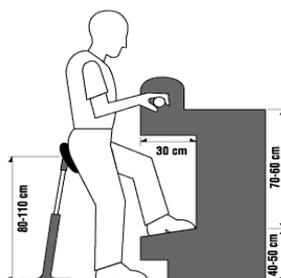

Figure 4a
- Provide the worker with a height-adjustable workstation (Figure 4a)